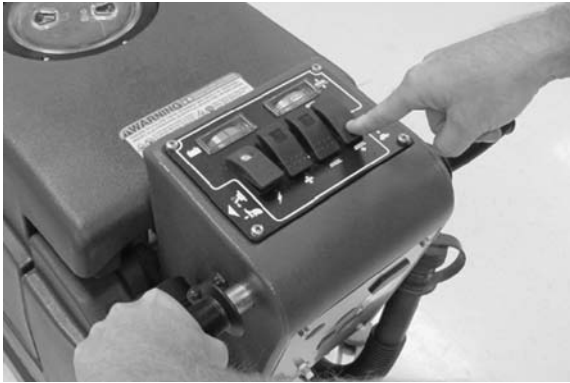

FIG. 16
4. Lower scrub head to floor by pressing the bottom half (+) of brush the pressure switch (Figure 16).